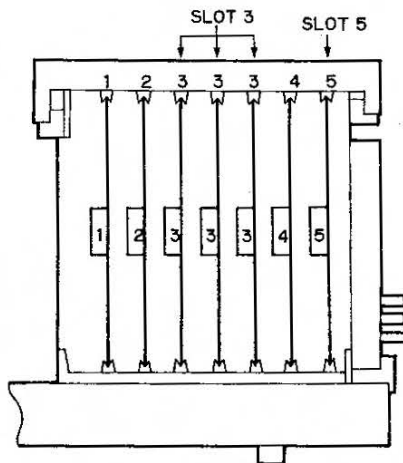

Fig. 6 Right Surface Slot Board Section
- When installing a digital kit, the D1 and D2 (D3) system can be changed by simply replacing the c) board inserted into Slot 5 of Fig. 6.
A decoder board is mounted in the three locations of Slot 3 of Fig. 6 to handle up to all three formats NTSC/PAL/SECAM with automatic switching.
The set can be installed by just inserting the board into a blank spot in Slot 3 of Fig. 6.